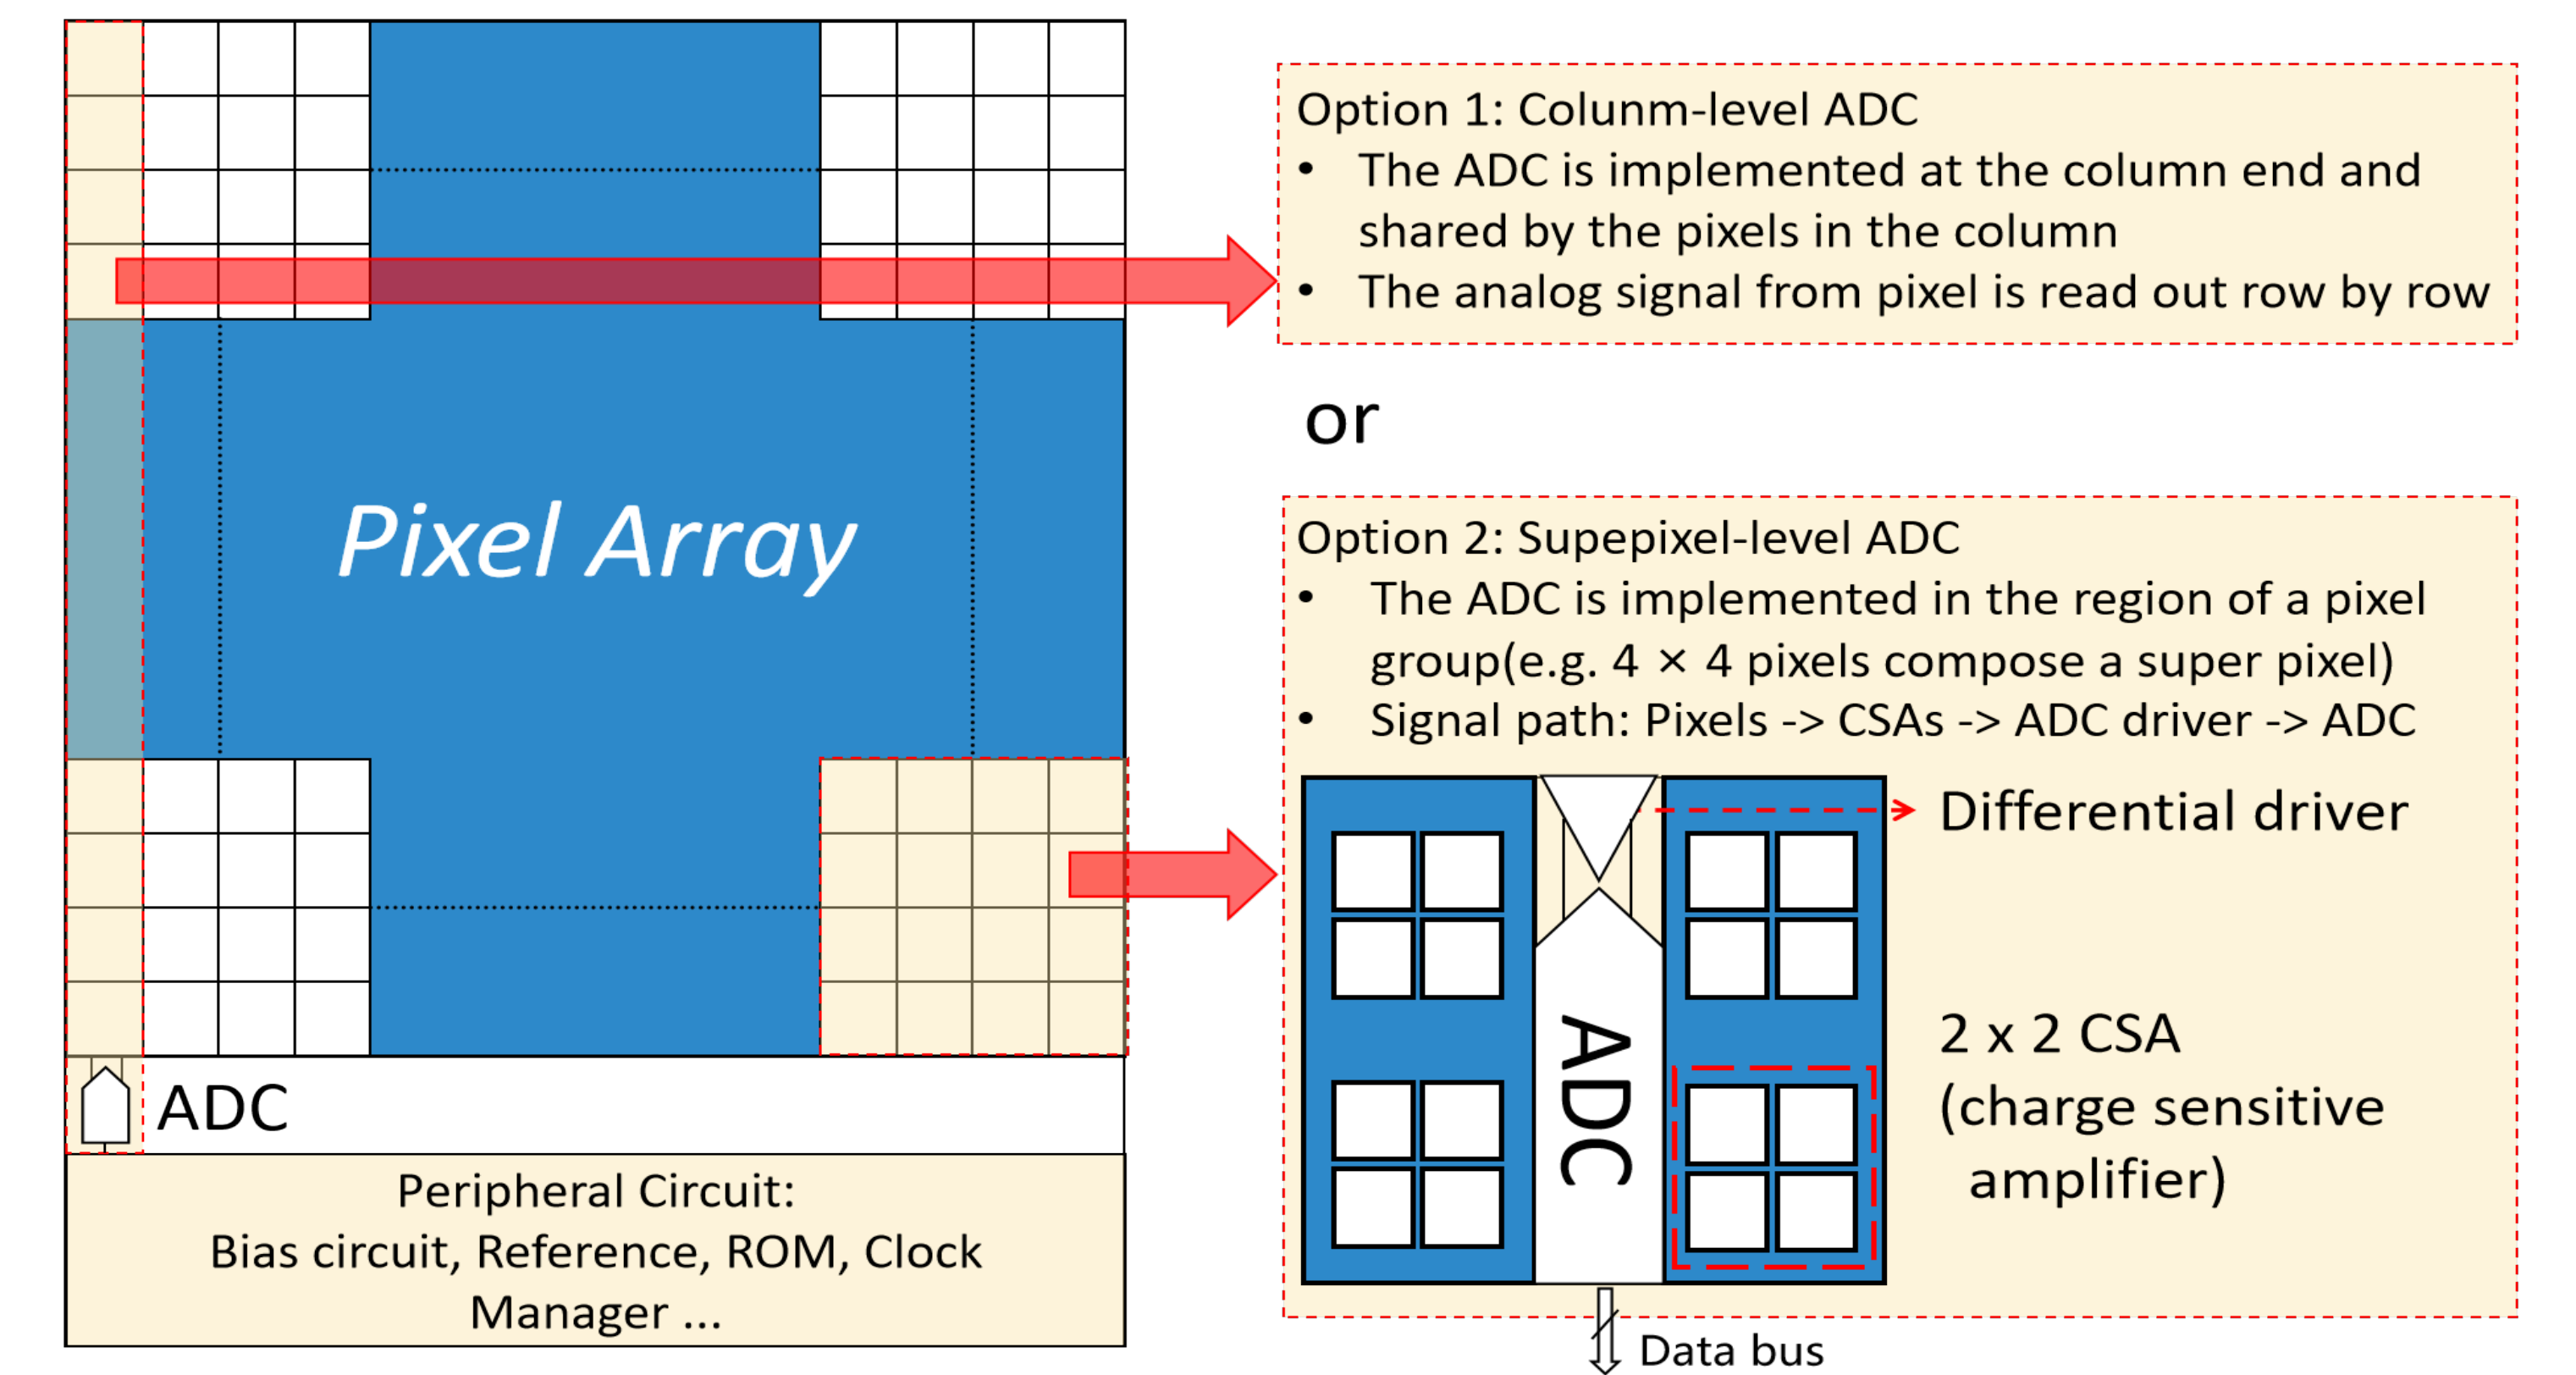

Figure 1. Pixel array and different configurations of on-chip ADC
- ▶ The charge-integrating pixel detector is one of the major enablers of new science at X-ray free electron laser (XFEL) facilities. In order to improve the frame rate of the pixel detector to match the repetition rate of the laser machine, a digital readout architecture is essential[1], which necessitates an ADC with high speed and high resolution to satisfy the requirements of frame rate and dynamic range. As illustrated in Figure 1, there are commonly two ways for on-chip digitization: column-level ADC[2] and superpixel-level ADC[3].